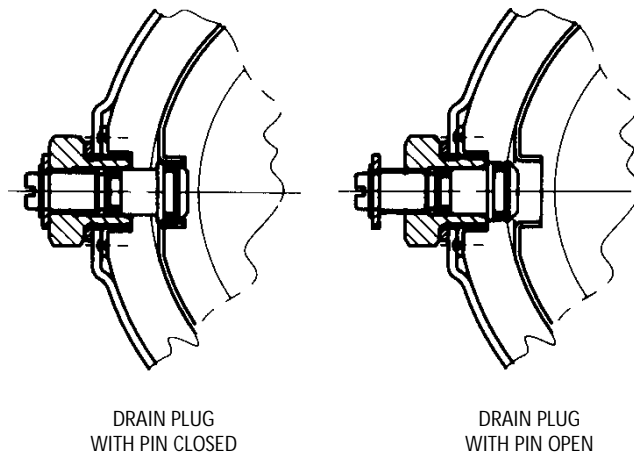

Figure 7
- To completely prime models 1SV and 2SV it is necessary to fully unscrew the pin located in the drain plug. See Figure 7.